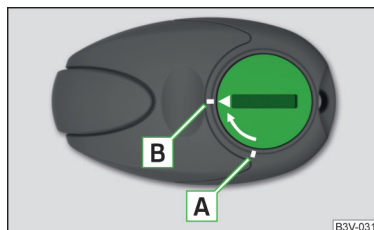

Fig. 183
- Insert a flat, blunt object, such as a coin, into the gap of the battery cover » Fig. 183.